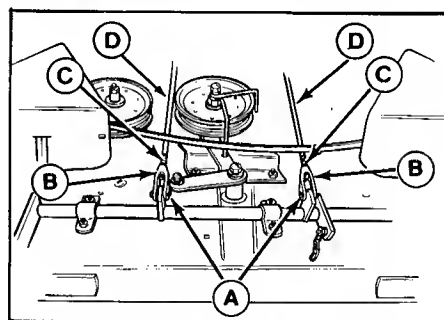

Figure 43. Turnbuckles - 42"
6. If adjustment is needed, remove the two pins (A, figure 43) by removing the cotter pins. Loosen the jam nuts (C).